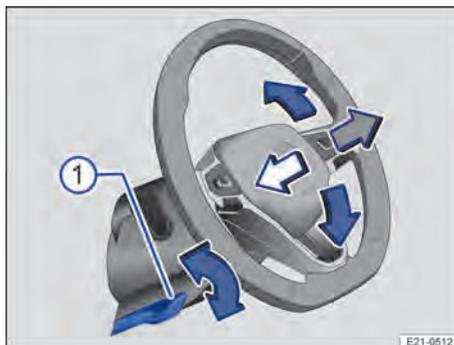

Fig. 65 Below the steering wheel in the steering column trim: lever for mechanical adjustment of the steering wheel position.
1. Push the lever down → Fig. 65 ①.
3. Push the lever → Fig. 65 ① up firmly until it is flush with the steering column trim → ⚠.